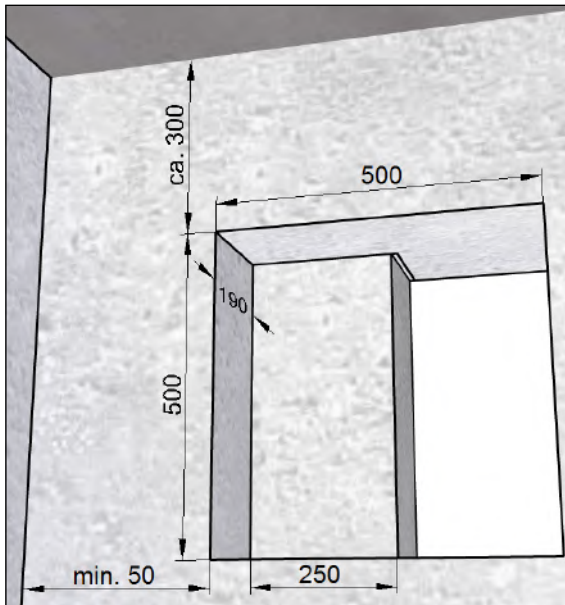

Fig. 10: Wall breakthrough for installation kit **without** filler piece, dimensions in millimetres
- Wall breakthrough with recess (see Fig. 10 on page 18) for installation kit **without** filler piece M-WRG-M/Fü